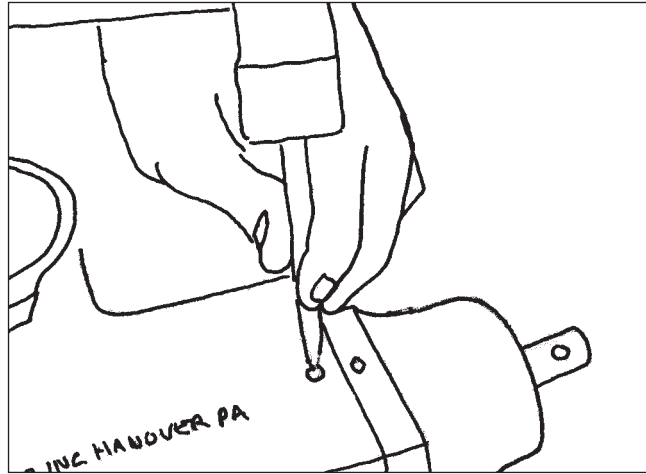

Figure 44
2. Locate the plunger hole in the end cap. Using the 1/4" punch and hammer, drive the auto plunger in until it bottoms out in the bore. Take care to keep the punch straight in the bore and use only light hammer blows to drive the auto plunger assembly. (Figure 44).